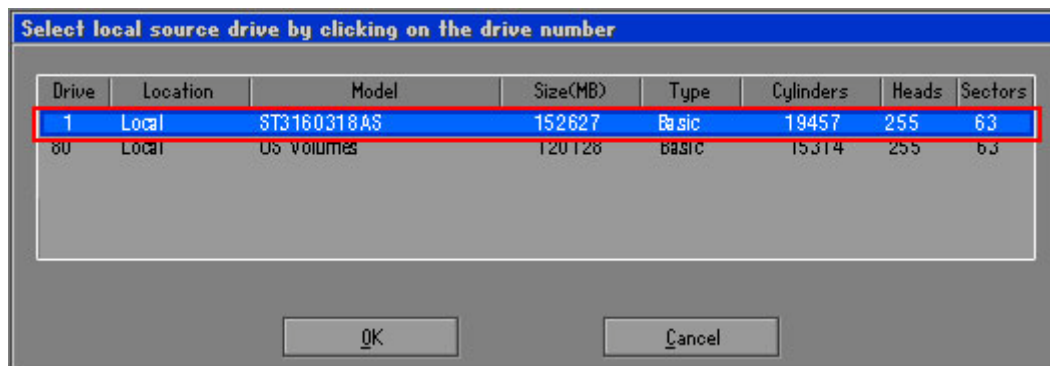

Figure C-14: Select a Local Source Drive
Step 5: Select the local source drive (Drive 1) as shown in **Figure C-14**. Then click OK.